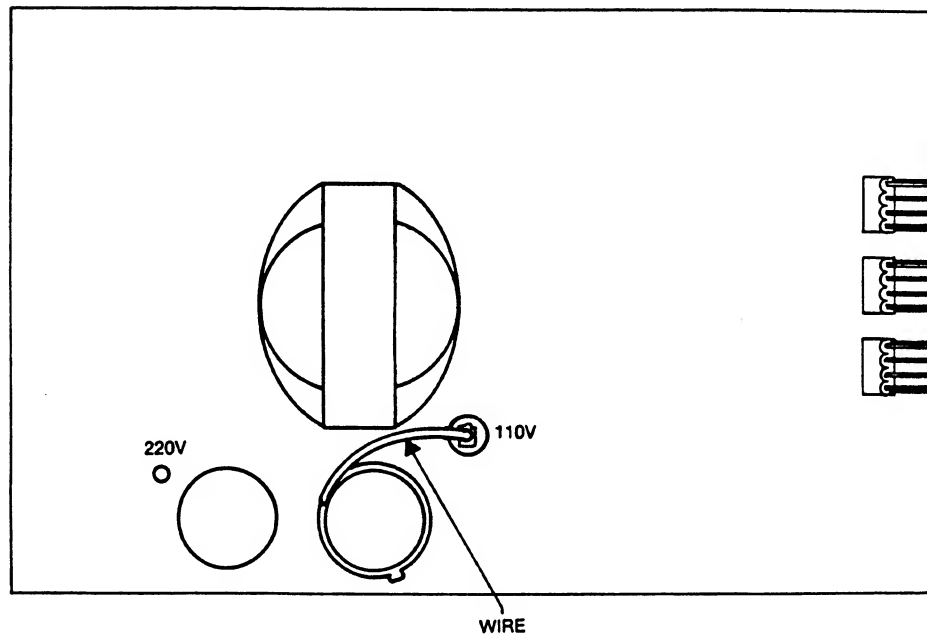

Figure 7-3. Line Power Voltage Pins
5. Refer to Figure 7-3 to locate the Line Power Voltage Pins. To select 180-264V operation, connect the wire to the pin marked 220V. For 90-132 operation, place the wire on the pin labeled 110V.